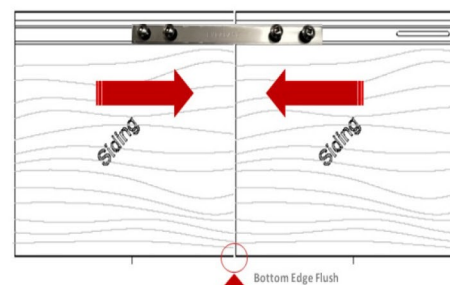

Figure 7
- Always make sure the bottom of panels align before installing the bracket (Figure 7).